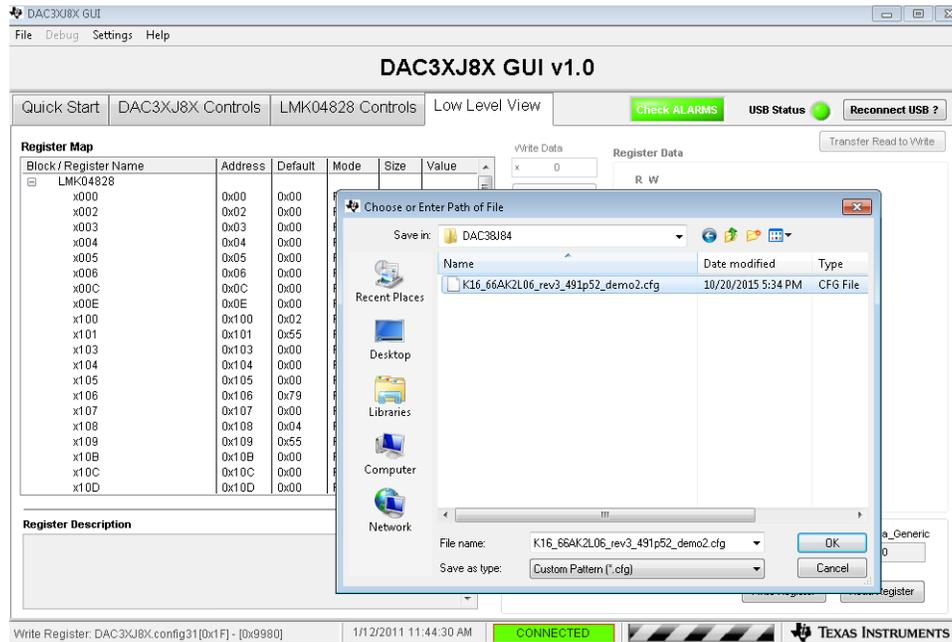

Figure 10. Low Level View to Load Registers
8. Click the *Low Level View* tab and the *Load Config* button once the programming is complete. See Figure 10 for the low level view to load registers.